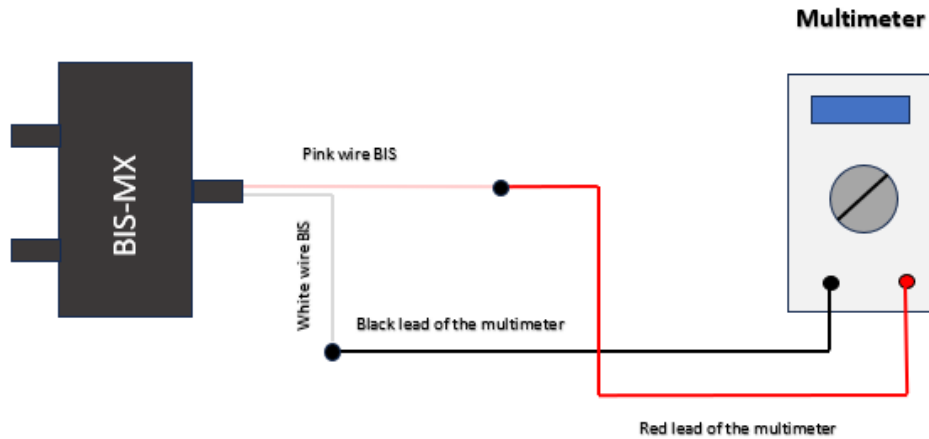

Fig. 6 Connection Diagram
2. Assemble the connection circuit according to “Fig. 6 Connection Diagram”.